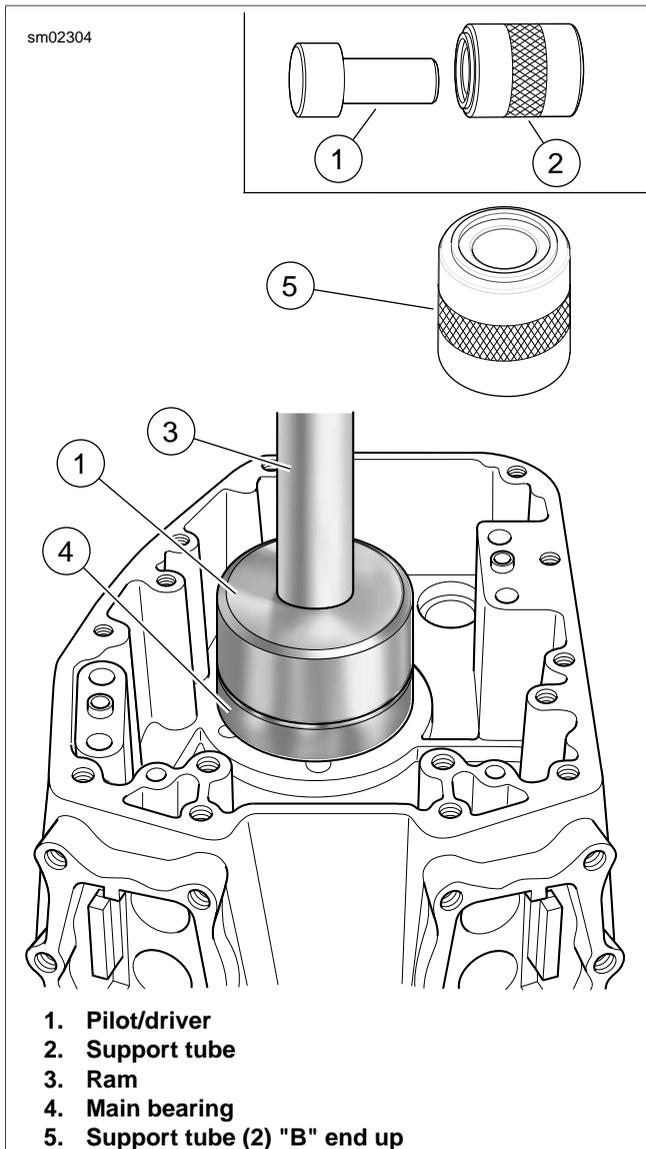

Figure 3-125. Right Main Bearing Installation
1. See Figure 3-125. Obtain CRANKCASE BEARING REMOVER/INSTALLER (Part No. B-45655) and CRANKCASE BEARING REMOVER/INSTALLER BASE (Part No. HD-42720-5).
2. Obtain **new** main bearing (4). Spread a thin film of clean engine oil on O.D. of **new** bearing.
3. Turn support tube (2) over so that the "B" end is up. The sides of the support tube are stamped "A" and "B" to ensure proper orientation.
6. Slide pilot/driver (1) through bearing into support tube.
- Center pilot/driver under ram (3) of press. Apply pressure to pilot/driver until resistance is felt and bearing is bottomed on the support tube.